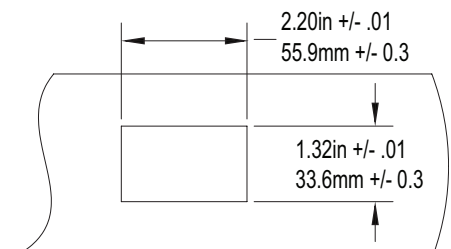

Figure 8. Cutout Dimensions for LMFC-2RJ
4. For the LMFC-2RJ, see the diagram for the measurements for the hole (Figure 8). The LMFC-2RJ has snap fit tabs to secure it to the fixture.